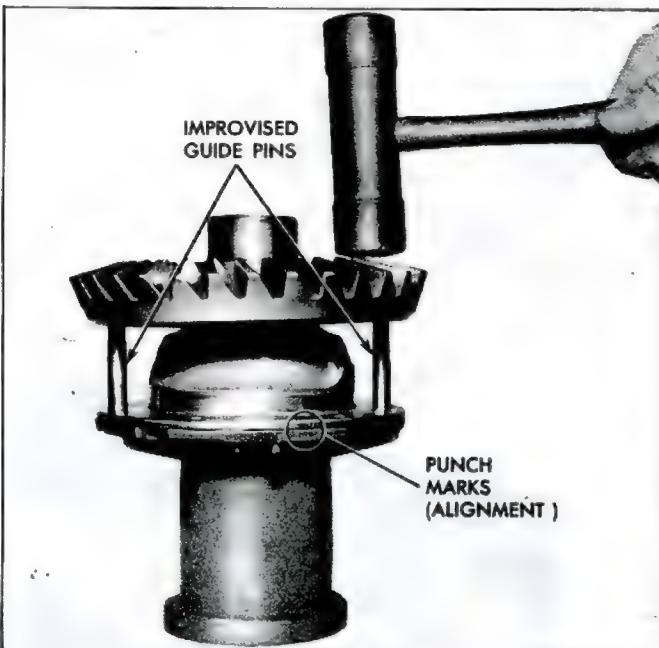

Fig. 34—Installing Ring Gear on Differential Case and Cover Using Improvised Guide Pins
4. Position "U" joint yoke nut and side gear with thrust washer installed on its hub on pinions and place differential cover on case. Align punch marks on edges of differential carrier and cover (fig. 34).